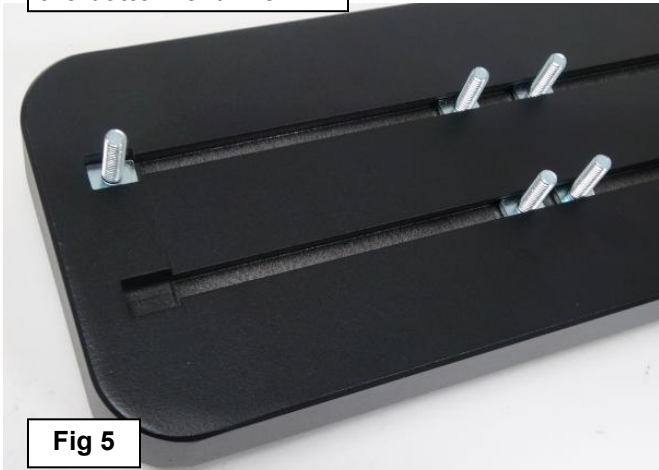

Fig 5
4. Select a Running Board. Slip (6)6mm T-bolts into each bottom channel **(Figure 5)**. Carefully position the Running Board onto the (3) Mounting Brackets. **IMPORTANT:** Do not slide, (front to back), the Running Board on the Brackets or damage to the finish may result. Attach the